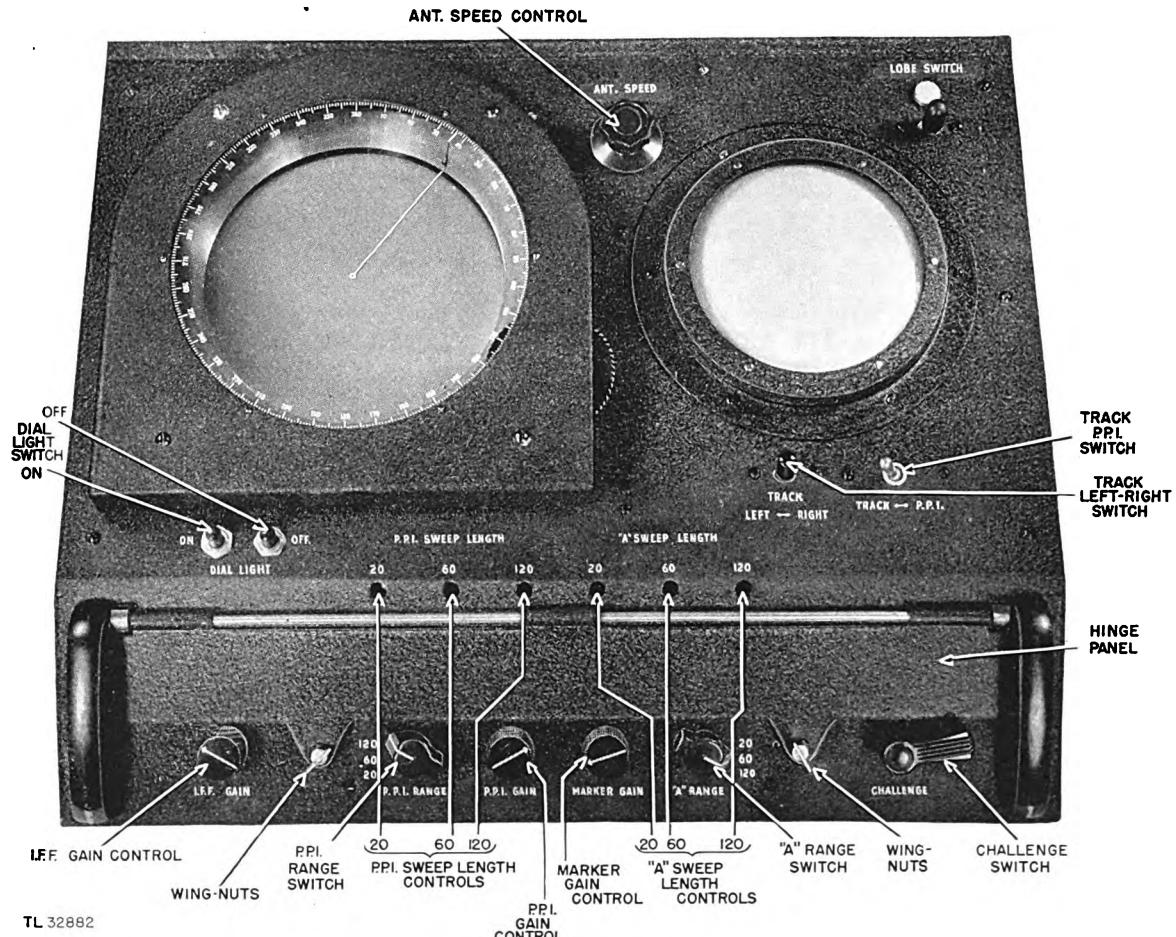

Figure 14. Indicator chassis, panel closed.
- (l) The TRACK LEFT-RIGHT switch (fig. 14) for:
- (q) The ANT. SPEED potentiometer (fig. 14) for: